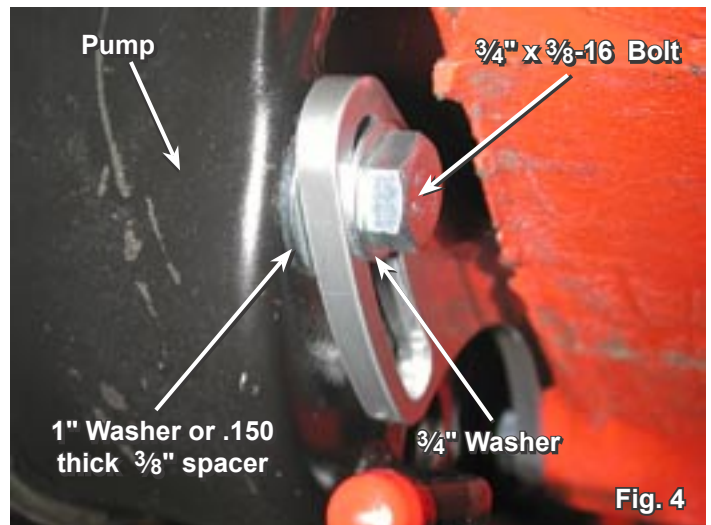

Fig. 5
5. Mount upper support bracket to water pump using two (2) 3 $\frac{3}{4}$ " x $\frac{3}{8}$ "-16 socket head bolts and two (2) spacer tubes. Tighten down bolts at this time (fig. 5).